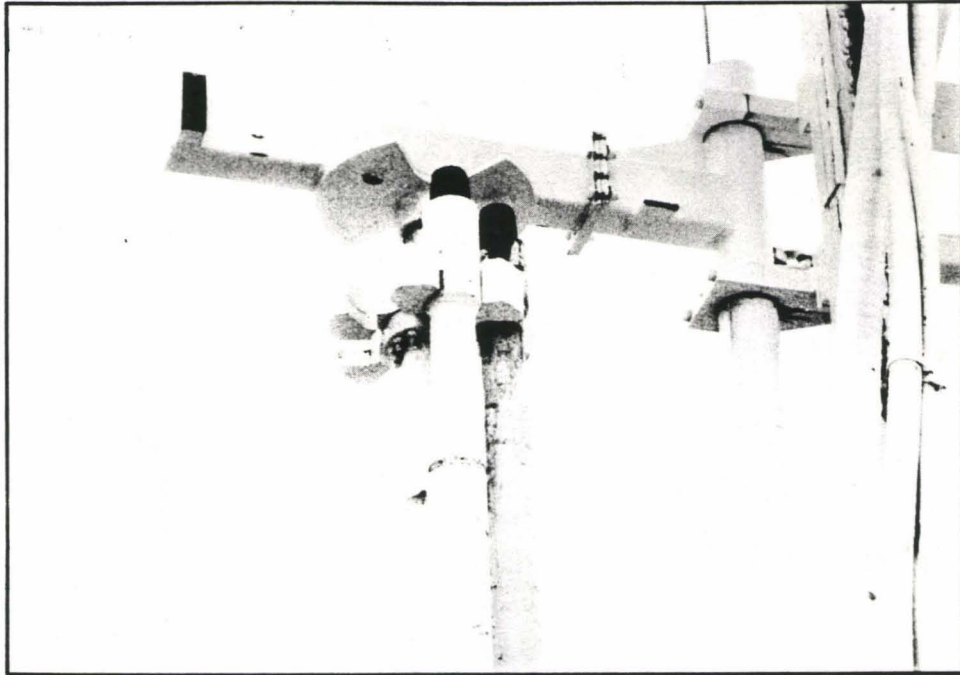

Figure 3.16.1f
- h. Move PIPE RACK CONTROL (42) to OUT position. Hold control in this position until carousel swings out against its stop; then move PIPE RACK CONTROL (42) to CENTER (NEUTRAL) position (Figure 3.16.1f).
1. CONDITIONS: Drilling completed. Pipe in carousel and carousel in OUT position. (Figure 3.16.1f).